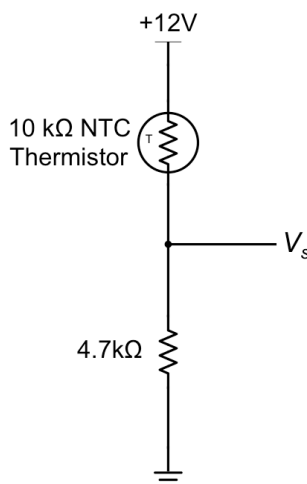

Figure 1 – A thermistor is wired up in a voltage divider circuit. Equations (1) and (2) can be combined to compute the temperature from the voltage output V_s .
You will now use a thermistor in a voltage divider circuit to measure temperature, as shown in Fig. 1, and write a LabView program to display and save the measured temperatures. The thermistor has a negative temperature coefficient (NTC), which means the resistance decreases with increasing temperature. The temperature T is related to the thermistor resistance R_s via the Steinhart interpolation formula
where $R_{ref} = 10\text{k}\Omega$, $A = 3.354 \times 10^{-3} \text{ K}^{-1}$, $B = 2.57 \times 10^{-4} \text{ K}^{-1}$, and $C = 2.62 \times 10^{-6} \text{ K}^{-1}$. The output voltage V_s of the circuit shown in Fig. 1 is given by the voltage divider equation
1. Sketch the circuit shown in Fig. 1 in your lab notebook.